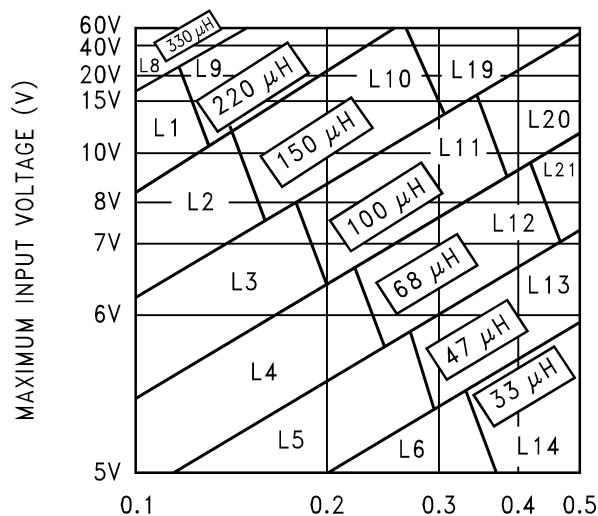
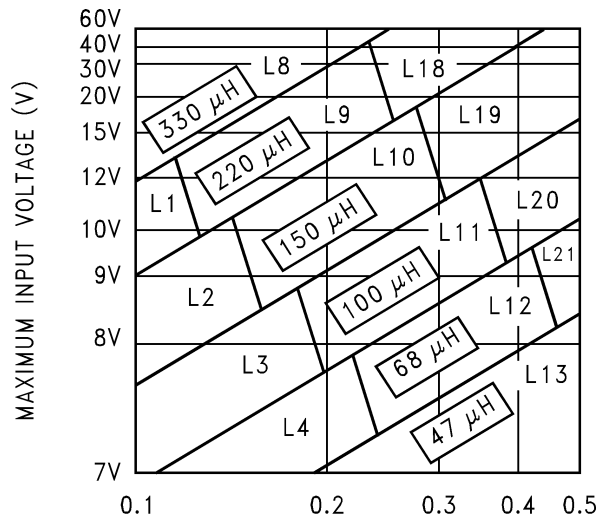
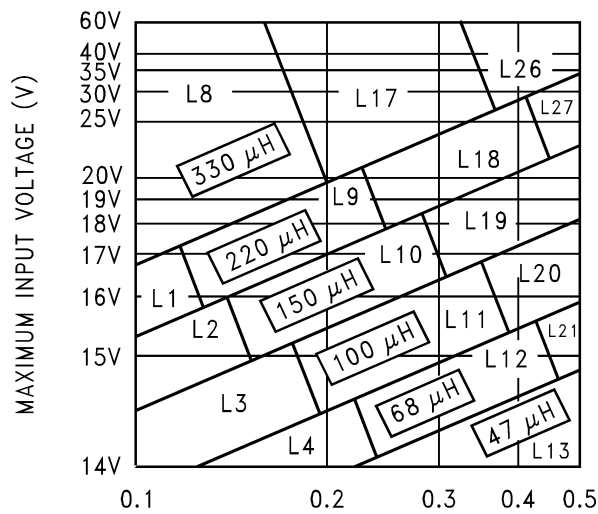

Figure 26. LM2597/LM2597HV-3.3
Figure 27. LM2597/LM2597HV-5.0
Figure 28. LM2597/LM2597HV-12
1. Inductor Selection (L_1) A. Select the correct inductor value selection guide from Figure 26 , Figure 27 , or Figure 28 . (Output voltages of 3.3V, 5V, or 12V respectively.) For all other voltages, see the design procedure for the adjustable version. B. From the inductor value selection guide, identify the inductance region intersected by the Maximum Input Voltage line and the Maximum Load Current line. Each region is identified by an inductance value and an inductor code (LXX). C. Select an appropriate inductor from the four manufacturer's part numbers listed in Table 3 .	1. Inductor Selection (L_1) A. Use the inductor selection guide for the 5V version shown in Figure 27 . B. From the inductor value selection guide shown in Figure 27 , the inductance region intersected by the 12V horizontal line and the 0.4A vertical line is 100 μ H, and the inductor code is L20. C. The inductance value required is 100 μ H. From the table in Table 3 , go to the L20 line and choose an inductor part number from any of the four manufacturers shown. (In most instance, both through hole and surface mount inductors are available.)